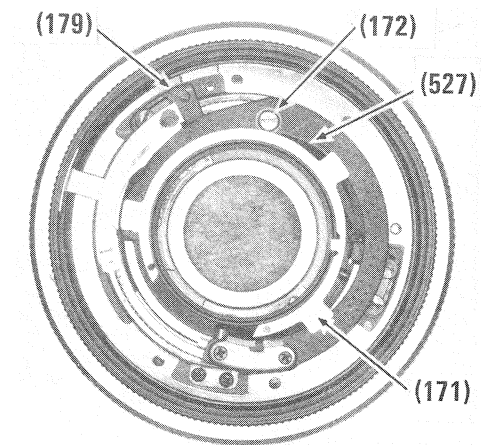

FIG. 9-3
The tool is used to position two stop plates (179) which limit the travel of the rings. Fig. 9-3.
Prepare the mount for use with the tool by removing retainer (171), diaphragm lever shaft (172) and diaphragm lever assembly (527). Fig. 9-3.